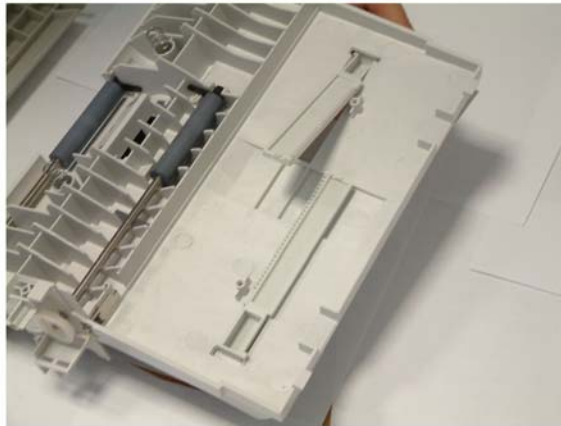

Figure 2
3. Lift the rack gears and remove them from the input tray assembly, Figure 2.